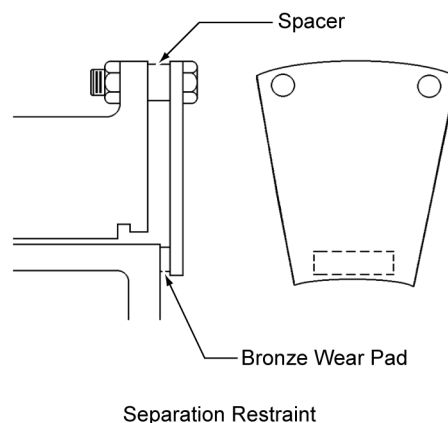

Figure 3A
- 1.2.2.1 **Figure 3A** illustrates another type of axial locking device called a separation restraint. This device is attached to the clutch rim as shown, with a bronze wear pad which rides against the clutch drum to restrict axial movement.